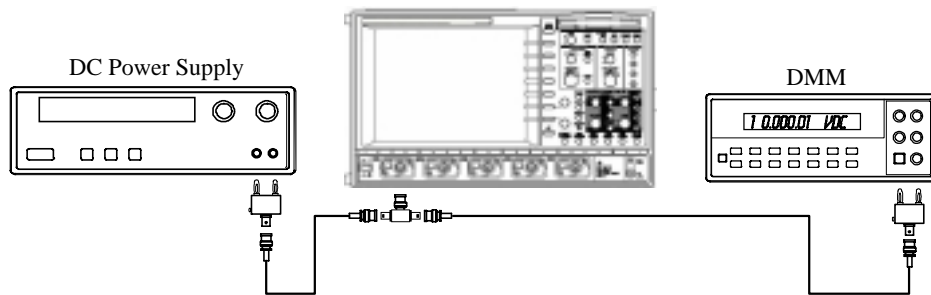

Figure 5-4 Offset Accuracy Test Setup
- Connect the test equipment as shown in Figure 5-4.